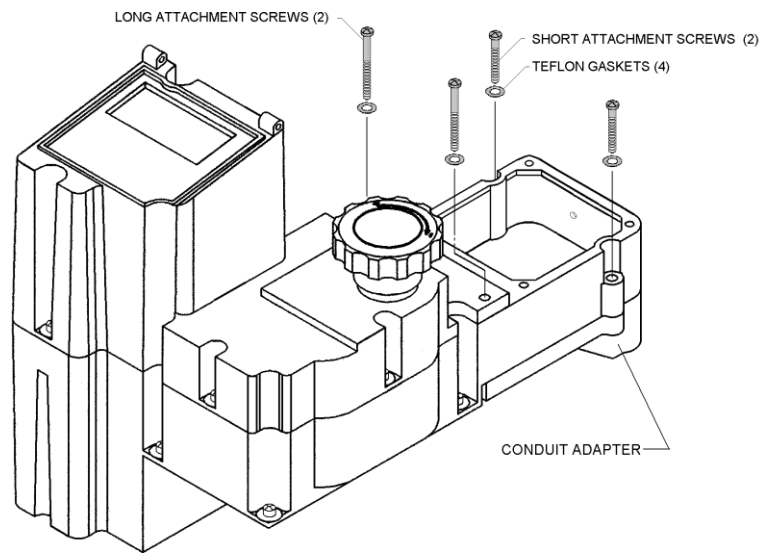

Figure 36 – Conduit Adapter Screw Removal
7. Remove the four screws and Teflon Gaskets that retain the conduit adapter (refer to **Figure 36**).
a) Install the four screws and Teflon Gaskets that hold the Conduit Adapter to the DLCM (refer to Figure 36).